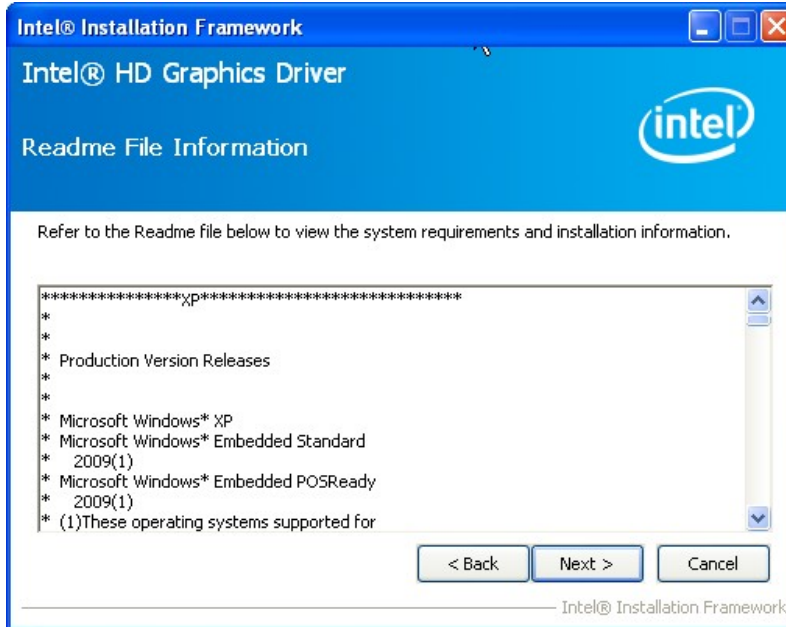

Figure 6-8: Graphics Driver Read Me File
Step 7: The Read Me file in **Figure 6-8** appears.